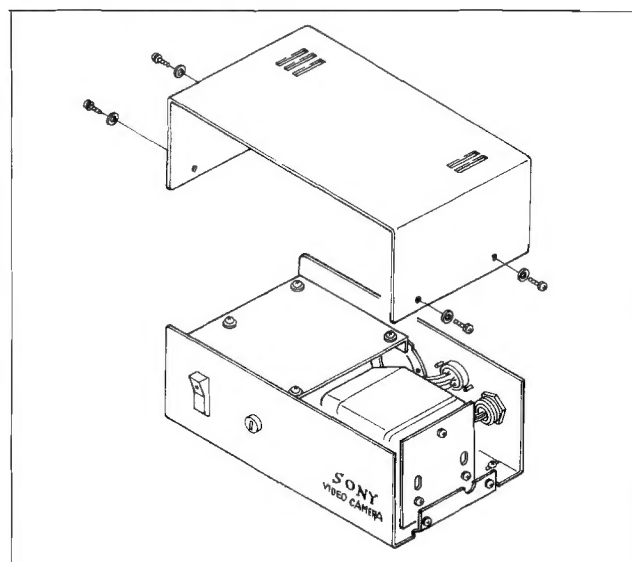

Fig. 2-3. Power unit disassembly
1. Remove the four screws and the polyethylene washers as shown in Fig. 2-3. Then the cover can be removed.